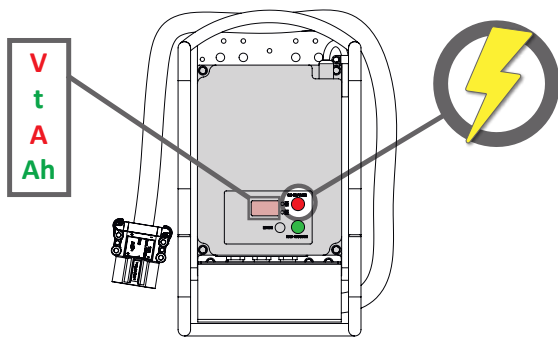

Fig. 17E - Check the charger indications
4. The machine display screen will now show the machine is in charge mode (Fig. 17D). The charger will also show a solid red light to indicate charging in progress (Fig. 17E).